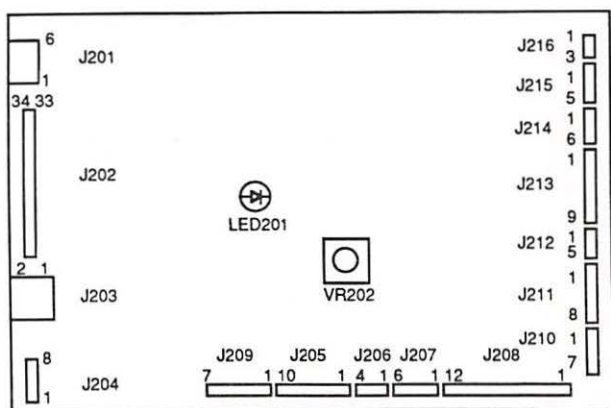

FIGURE 3-3: CONNECTOR LOCATIONS ON THE DC CONTROLLER PCB
6. Disconnect the cable from J209 on the DC Controller board (see Figure 3-3).
8. If a new DC Controller board is being installed, turn VR202 (see Figure 3-3) all the way counterclockwise, to start with the lowest possible setting.